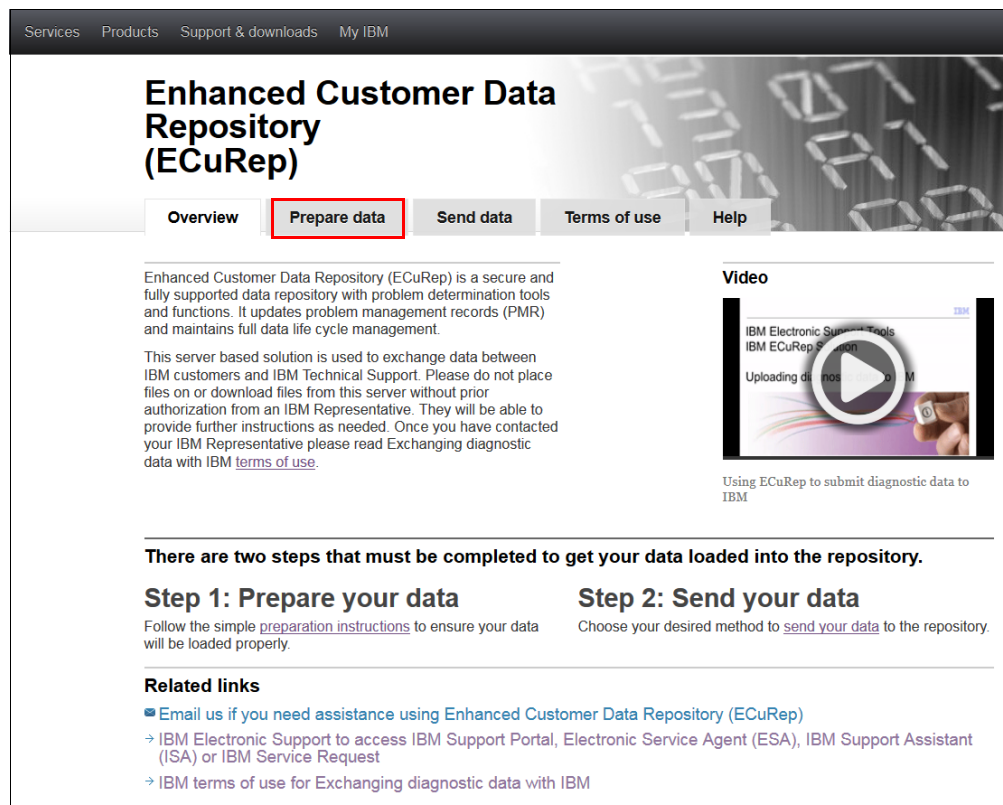

Figure 7-5 Main page of ECuRep
1. The ECuRep opening page is shown in Figure 7-5. This page provides information about the repository, instructions for preparing files for upload, and multiple alternatives for sending data. Click **Send data**.